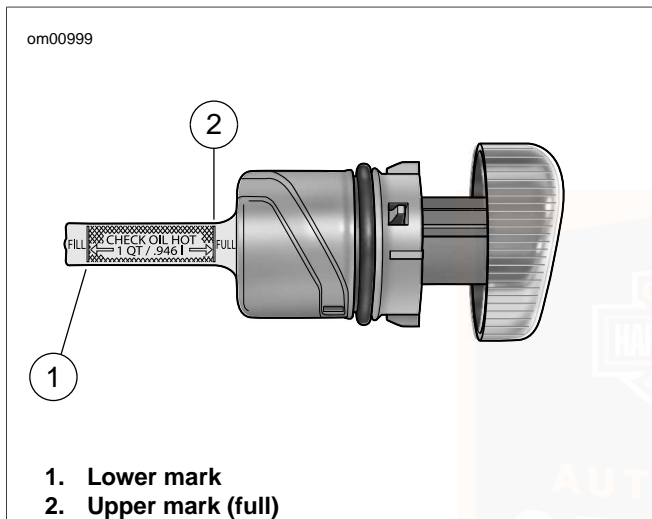

Figure 30. Filler Cap/Dipstick: Sportster Models (typical)
3. Remove oil filler cap again and check oil level on dipstick. See Figure 30. Dipstick has two marks. If oil level is at or below lower mark, add only enough oil to bring the level to a point between the two arrows on the dipstick. Replace filler cap.
4. Remove filler cap again and check warm oil level on dipstick. See Figure 30. Dipstick has two marks. If oil level in tank is at or below lower mark, add 1 U.S. qt. (0.946 liter) of Harley-Davidson oil to tank.